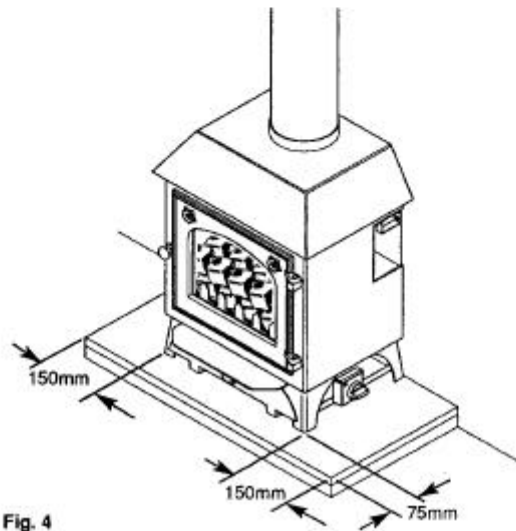

Fig. 4
3. The hearth should extend at least 75mm in front of the stove legs and 150mm either side of the stove (Fig. 4).